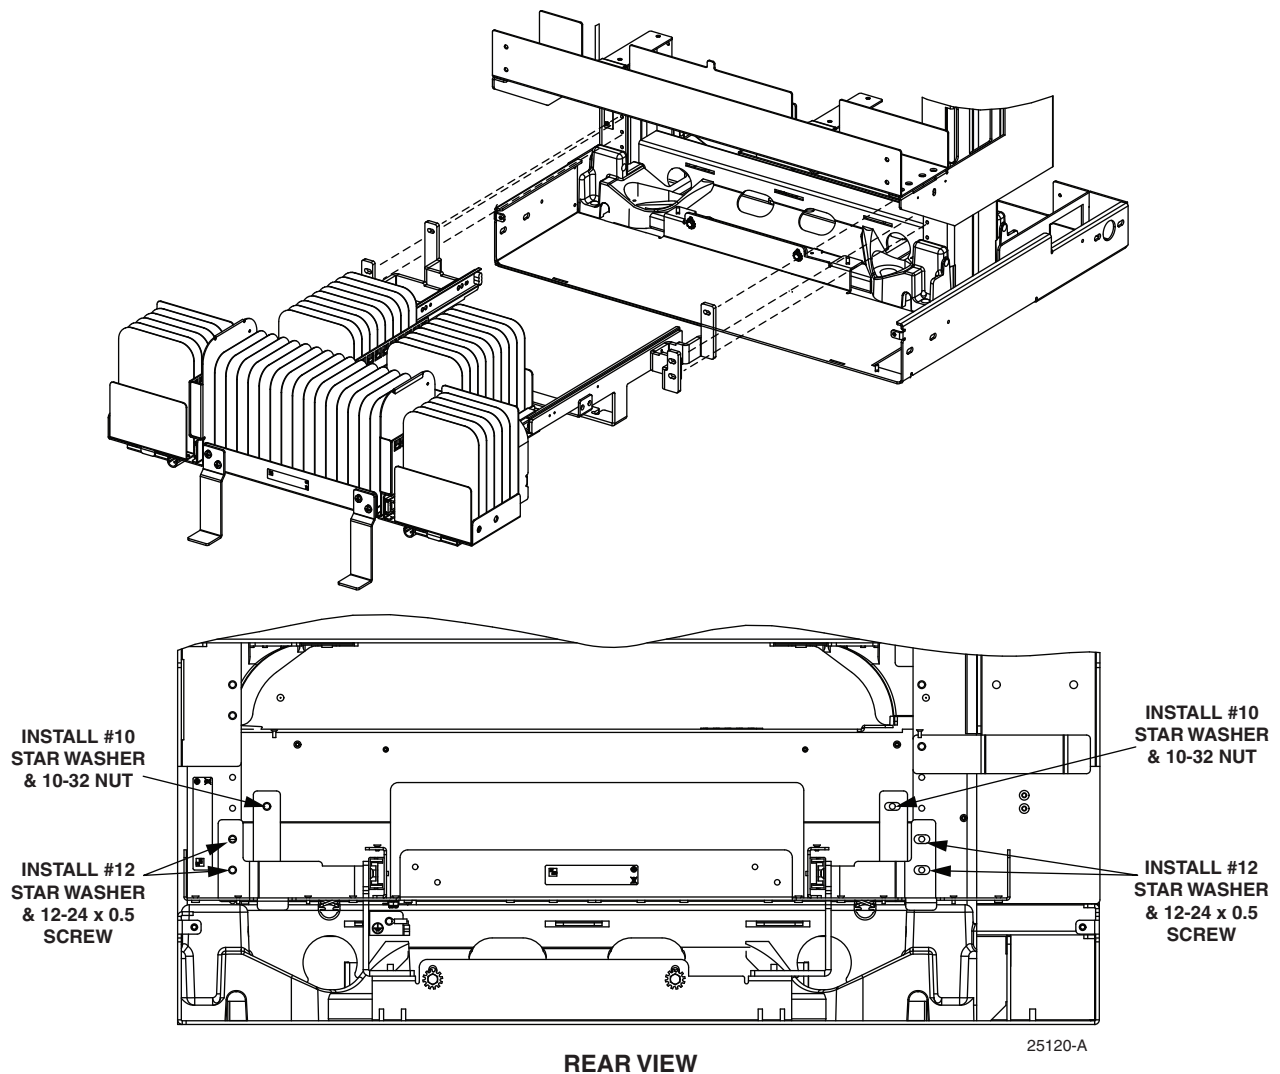

Figure 5. Securing the Chassis Slides
3. Align and secure the chassis slides as follows (refer to Figure 5):
- c. Look into the area of the frame where the splice chassis will be installed and locate the threaded stud and two mounting holes on either side as shown in Figure 5.
- f. Install a #12 star washer and a 12-24 x 0.5 screw in each of the four mounting holes shown in Figure 5; hand-tighten.